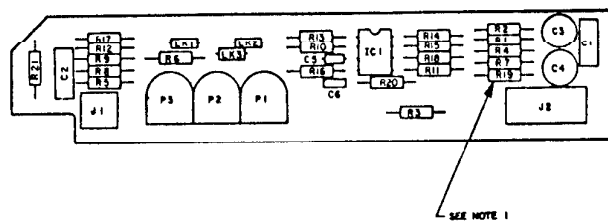

Figure 6-2: Input Board Component Layout
2. Referring to figure 6-2, connect a 23K7 resistor in parallel with resistor R1 located on the input board.